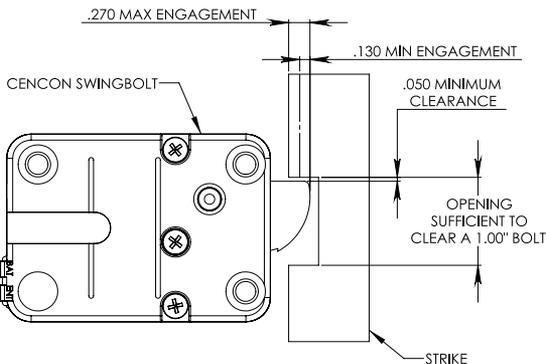

Figure 2 - Swing Bolt Clearances and Positioning
4. When mounting the lock unit (i.e., integrating it into a boltwork), make sure the lock bolt has clearance to freely move to its end positions and the shifting force works only in the axial direction (direction of movement). Lateral forces should not be exerted on the lock. A minimum clearance of 1/20" (1.27mm) is required between the flat edge of the bolt and the inside contact edge of the strike. (See Figure 2.)
1. Ensure the cable lays in the cable channel as you mount the lock case assembly to the inside of the container door using the three 1/4-20 (or M6-1) screws (Torque 25-30 lbs., 2.8-3.4 N-M), allowing 1/20" (1.27mm) clearance between the lock bolt and the container locking bar. (See Figure 2 for proper clearances and positioning when installing a swing bolt.)